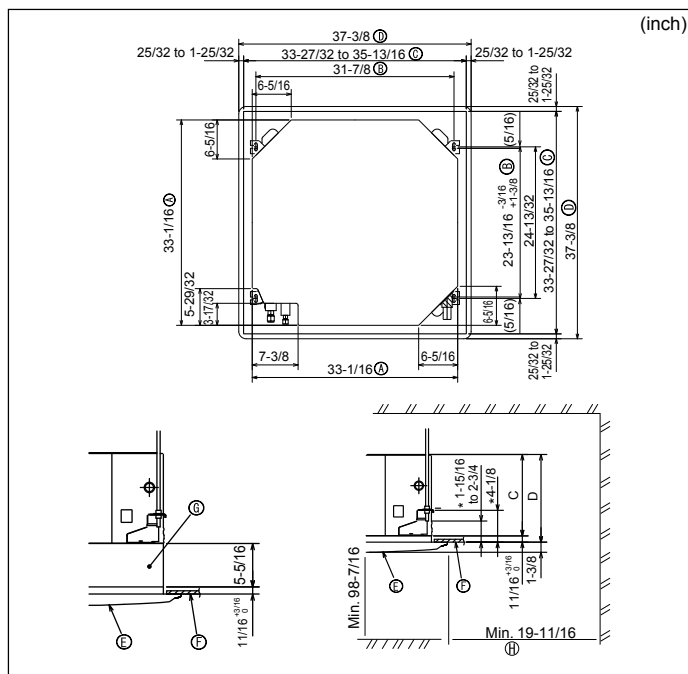

Fig. 3-2
### 3.2. Ceiling openings and suspension bolt installation locations (Fig. 3-2)
- The dimensions of ceiling opening can be regulated within the range shown in Fig. 3-2; so center the main unit against the opening of ceiling, ensuring that the respective opposite sides on all sides of the clearance between them becomes identical.
- ① Outer side of main unit      ⑤ Grille
- ② Bolt pitch      ⑥ Ceiling
- ③ Ceiling opening      ⑦ Multi function casement (option)
- ④ Outer side of Grille      ⑧ Entire periphery